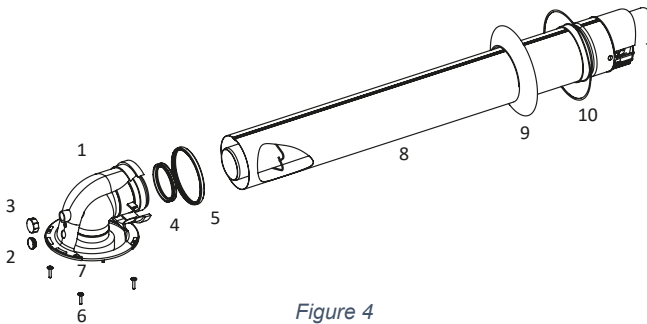

Figure 4
-The hermetic chimney set is delivered in a cardboard box separate from the device. The standard hermetic flue set ($\varnothing 60/100$) consists of the following parts (Figure 4).